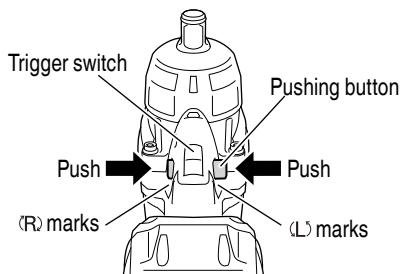

Fig. 15
The bit rotates clockwise (viewed from the rear side) by pushing the R-side of the pushing button. The L-side of the pushing button is pushed to turn the bit counterclockwise. (See Fig. 15). (The (L) and (R) marks are engraved on the body.)